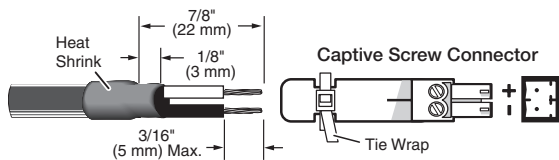

Figure 5. Wiring the Power Connector for the UCS FT 901 and FR 902
2. Wire each of the two provided power supplies to their 2-pole captive screw connectors (see figure 5, below).